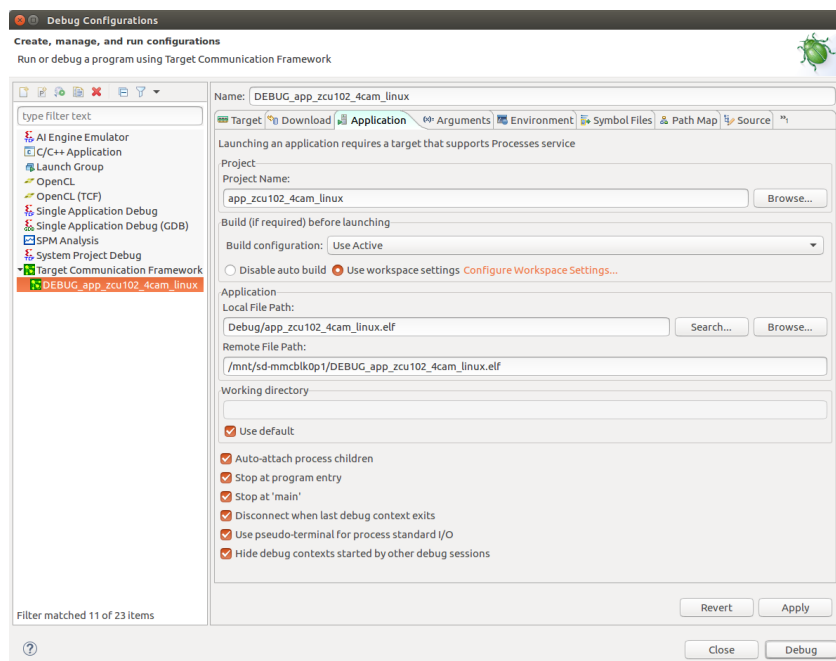

Figure 41: Vitis Workspace – Application Tab
8. In Available targets section the Host IP address of target has to match IP set on ZCU102 board, then select that target (see Figure 41)